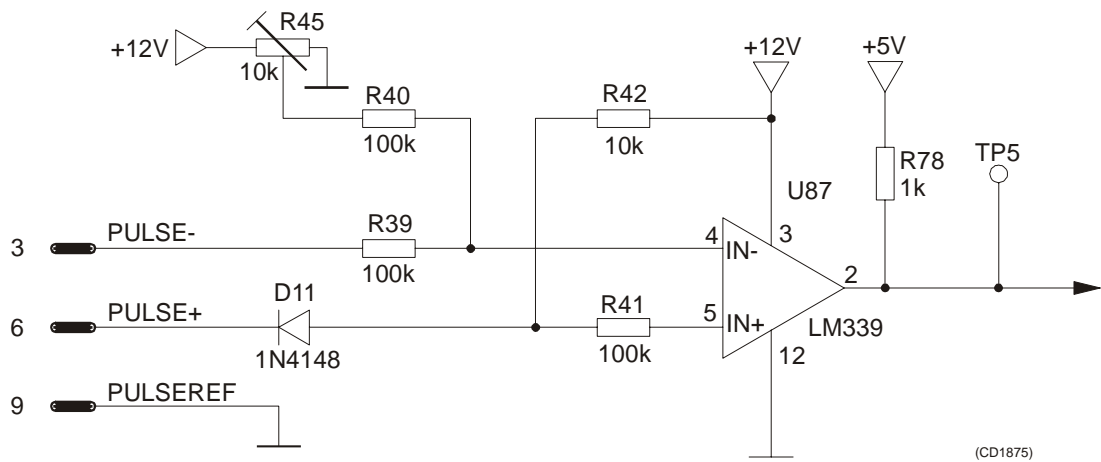

Figure 24 Pulse log interface
Figure 23 shows the connection of a pulse log with relay output. For connection of open collector, or opto-coupler outputs, be aware of the polarization (see figure 24).
Figure 24 shows the pulse log interface circuit on the Control Unit Board.
- ☐ **1** Use a 9-pin D-connector, male type, for connecting the serial line to port B on the Sonar Control Unit (this connector is not included in the delivery). To make the connections, refer to the pin connection list above, and figure 24 which shows the pin location of the connector seen from the wire soldering side. The cable screen should be connected to the connector housing.